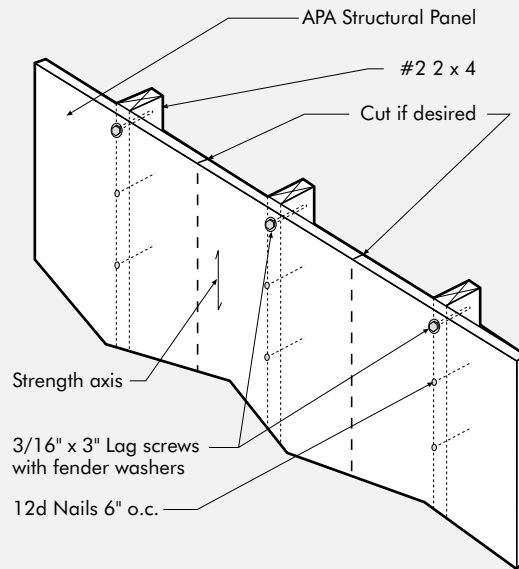

FIGURE 2
2. In the dimension from support to support, cut the panel 3/8 inch less than the measurement of the window opening (side to side in Figure 2). In the dimension from unsupported edge to unsupported edge, cut the panel 1/8 inch less than the measurement of the opening. The long-panel axis (strength axis) must be oriented perpendicular to the supported sides (side to side in Figure 2), regardless of which shutter dimension is longer.
7. Mount the shutter, with angles mounted, to the window frame using #10 screws with washers. (Figure 2)